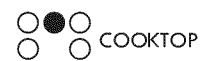

Figure 5
2. Touch the ON/OFF pad (Figure 5) at the Warm & Ready zone control position. The ON/OFF indicator light will flash. Note: If no Hi/Lo pad is not touched within 5 seconds, the request to power the Warm & Ready zone ON will clear.